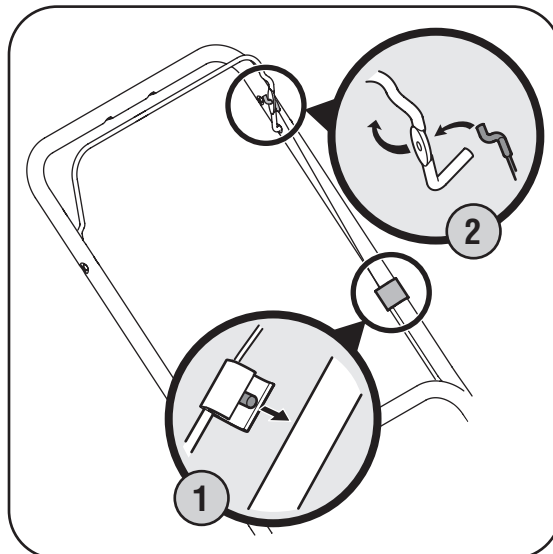

Figure 3-7: Attach the blade control cable.
1. Route the cable under the lower handle. Press the snap fitting into the hole on the upper handle as shown in Figure 3-7.
2. Hook the "Z" end of the blade control cable into the blade control handle from the outside to the inside, Figure 3-7.